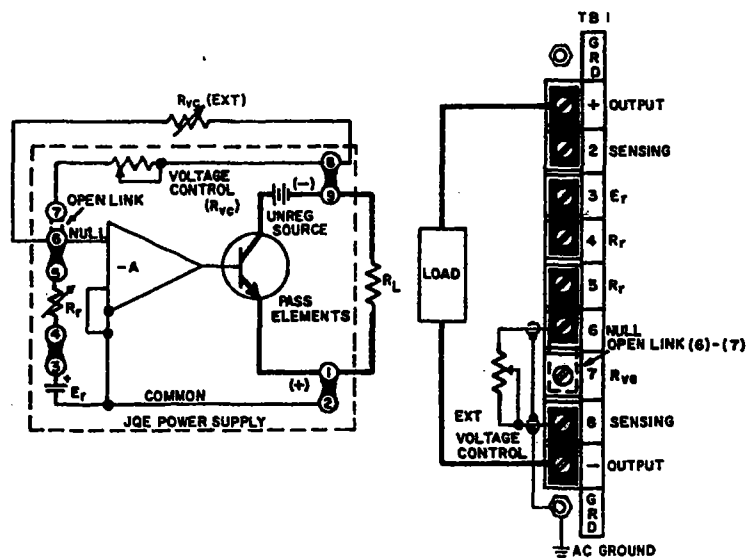

FIG. 3-7 REMOTE RESISTANCE PROGRAMMING
**3-20 PROCEDURE (Refer to FIG. 3-7)**
- b) Using two-wire, shielded cable, connect the chosen resistors to terminals (6) and (8). Connect the shield to the "ground" terminal.